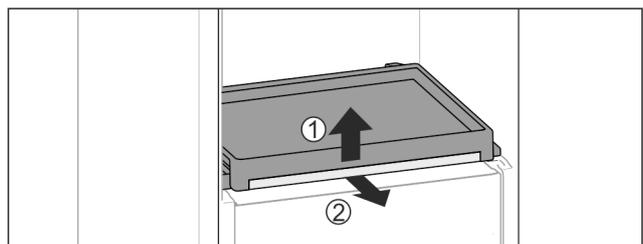

Fig. 35
- ▶ To remove the pull-out board with glass panel: Gently lift the glass panel at the front Fig. 35 (1) and pull out to the front Fig. 35 (2).